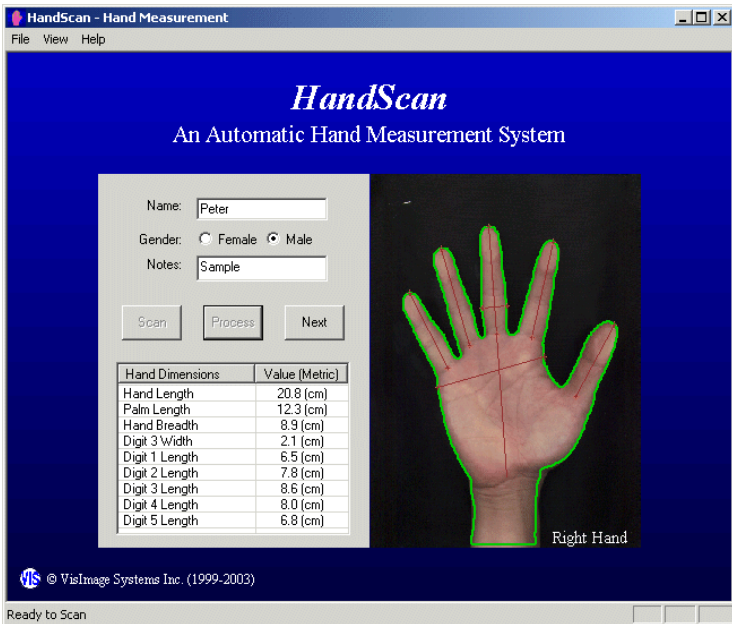

Figure 3. Hand image has been processed.
3. The text in the lower left corner of the image indicates whether the left or right hand was measured. A sample screen after processing is shown in Figure 3.